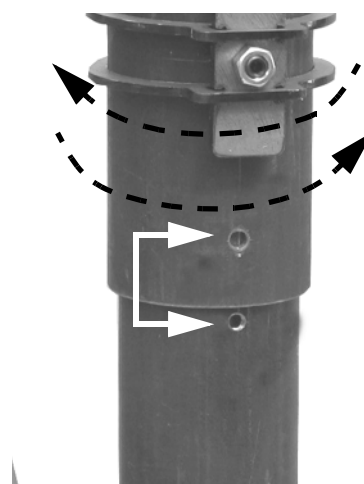
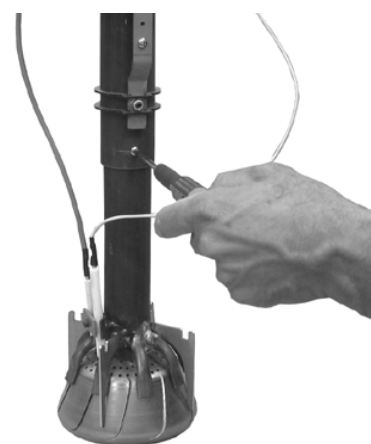

Fig. 11
Fig. 12
- 2 Lower the terminal part of the combustion head, by moving it with a slight circular movement, until the holes will match (Fig. 11) and tight the screw shown in Fig. 12.